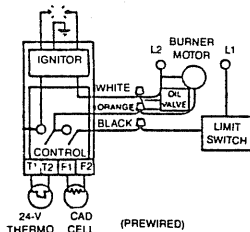

FIG. 2A 42130-02 WIRING DIAGRAM
2. **Line wiring:** Hook up orange, black and white wires, referring to Fig. 2A.